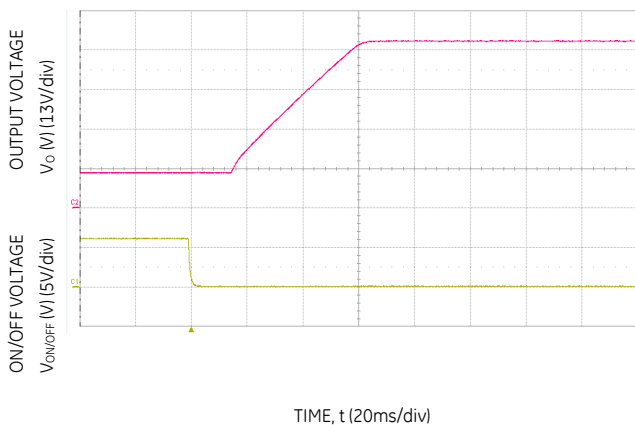

Figure 23. Typical Start-up Using On/Off Voltage ($I_o = I_{o,max}$).
3. Please note because of the specific design of the BOOST topology, the input voltage will present on the output when the input voltage is applied. This will occur even when the unit is in its "OFF" State. When the module is turned ON, the output voltage will start to rise from V_{in} level and not 0V. When turning off, the output will only drop back to V_{in} (If V_{in} is still present). Please refer to Figure 23 for typical start-up waveform using Remote ON/OFF. It shows the V_{in} level present prior to turning the module "ON"
When the module is turned ON, the output voltage will start to rise from Vin level and not 0V. When turning off, the output will only drop back to Vin (If Vin is still present). Please refer to Figure 23 for typical start-up waveform using Remote ON/OFF. it shows the Vin level present prior to turning the module “ON”